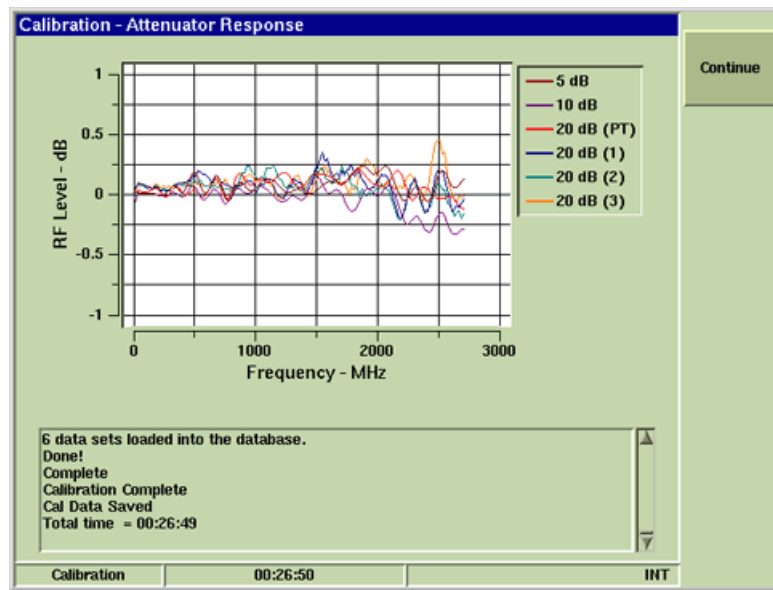

Fig. 4-8 Attenuator Response Signal Trace
- When the Attenuator Response Calibration Procedure is complete, verify Calibration Complete is displayed in dialog box. Verify signal traces on Test Set resemble signal traces shown in Fig. 4-8.